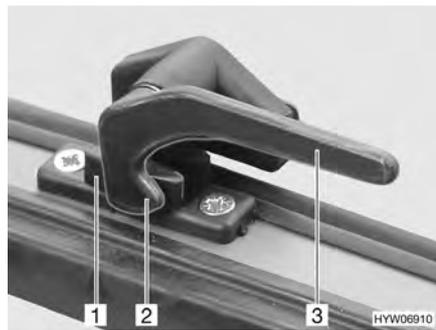
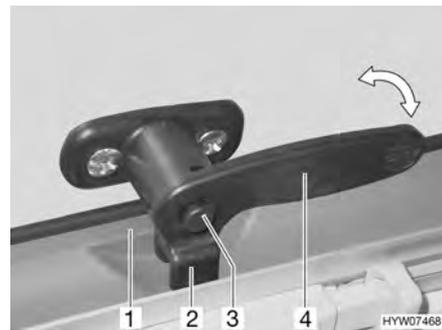

Fig. 59 Catch lever without safety knob in "closed" position
Fig. 60 Catch lever with safety knob in "closed" position
- If necessary, press the safety knob (Fig. 60,3) down and hold it.
- Turn the catch lever (Fig. 59,3 or Fig. 60,4) a quarter turn towards the window frame. The locking catch (Fig. 59,2) is on the inner side of the window catch (Fig. 59,1) or the fork (Fig. 60,2) on the catch lever is completely on the inner side of the window catch (Fig. 60,1).
- Firmly closed (Fig. 59 or Fig. 60)